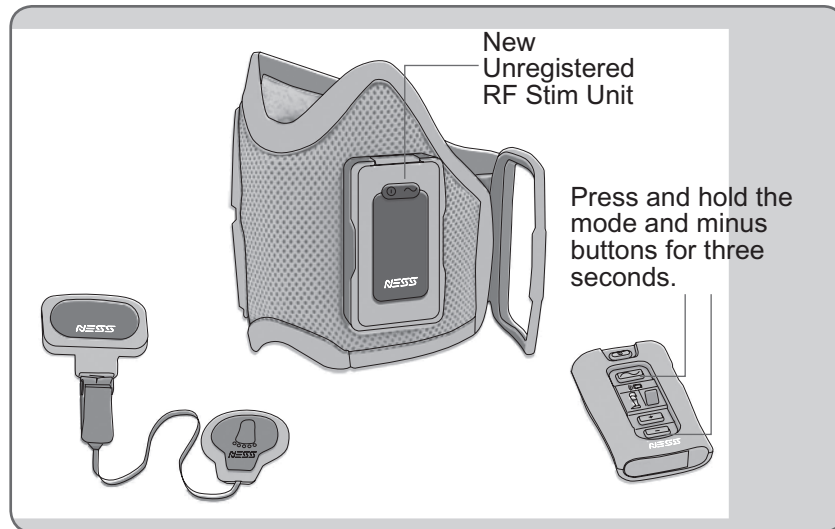

Figure 73: Registering a new RF Stim Unit.
2. Simultaneously press and hold for three seconds the  mode and  minus buttons on the Control Unit. The Control Unit will beep when registration begins. See Figure 73.